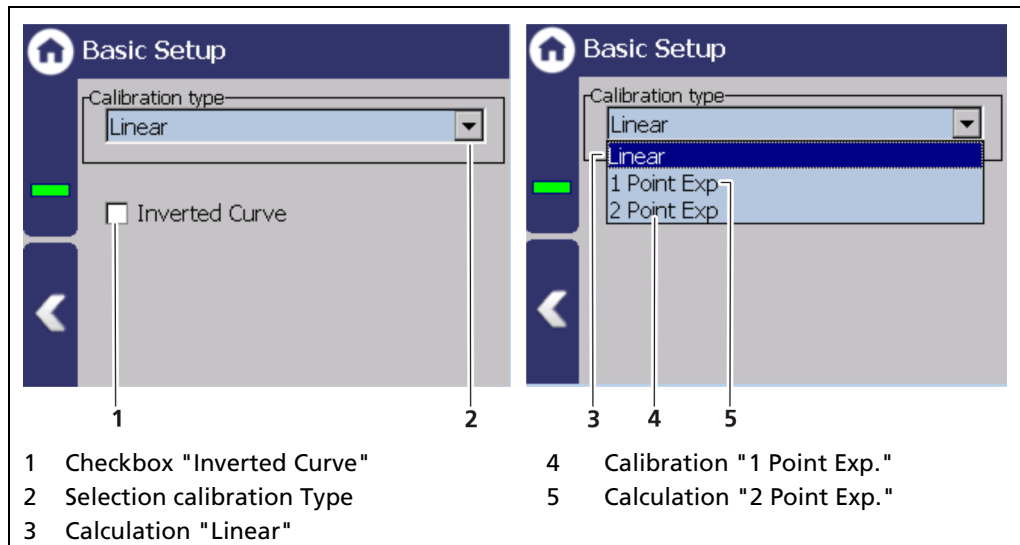

Fig. 74 Basic Setup
If the check box "Inverted curve" (Fig. 74, item1) is activated, the monotony criterion of the validation changes is strictly ascending.